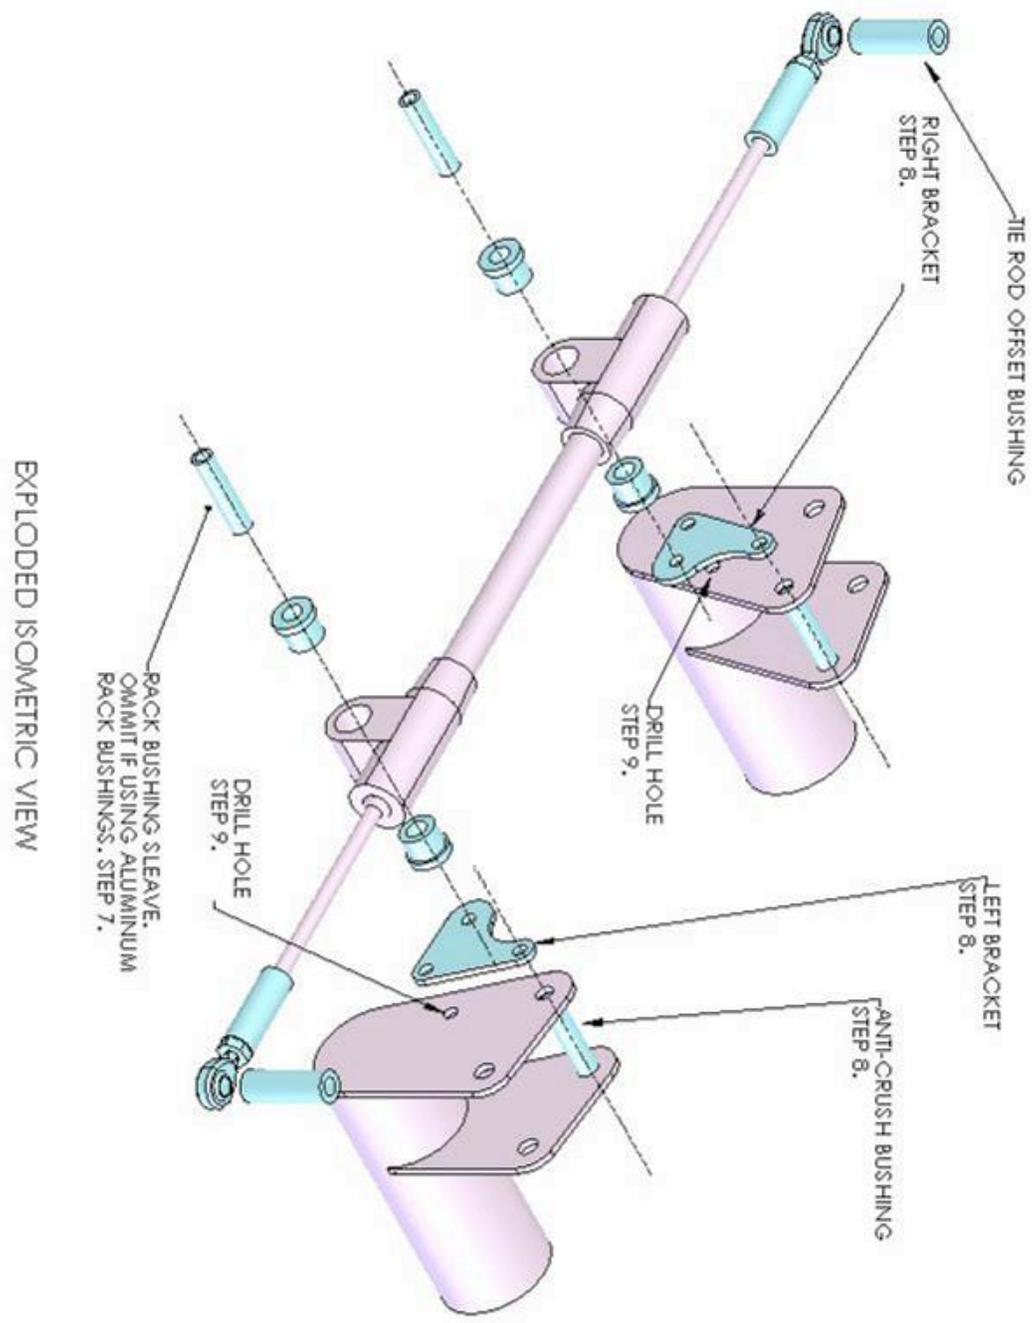

Figure 2.
- 8) Install the rack to the original mounting points using the new brackets. This means you will install the rack with the new brackets on the front of the existing mounting ears that are welded onto the frame. Install the new brackets using the top hole on the bracket and the existing rack mounting hole in the frame. Place the supplied anti-crush bushing on the mounting bolt in between the original mounting ears. Tighten the bolts until snug and position the rack so it is centered between the ears. This will place rack approximately  $\frac{1}{2}$ " to the right and  $3 \frac{1}{4}$ " forward of where it was originally mounted. Once the rack is positioned, tighten the mounting bolts tight. See figure 2.
pilot hole. Then use the 1/2" drill to finish the hole. Re-mount the rack using all of the supplied hardware. Torque all fasteners to 40 lb. ft. See figure 2.